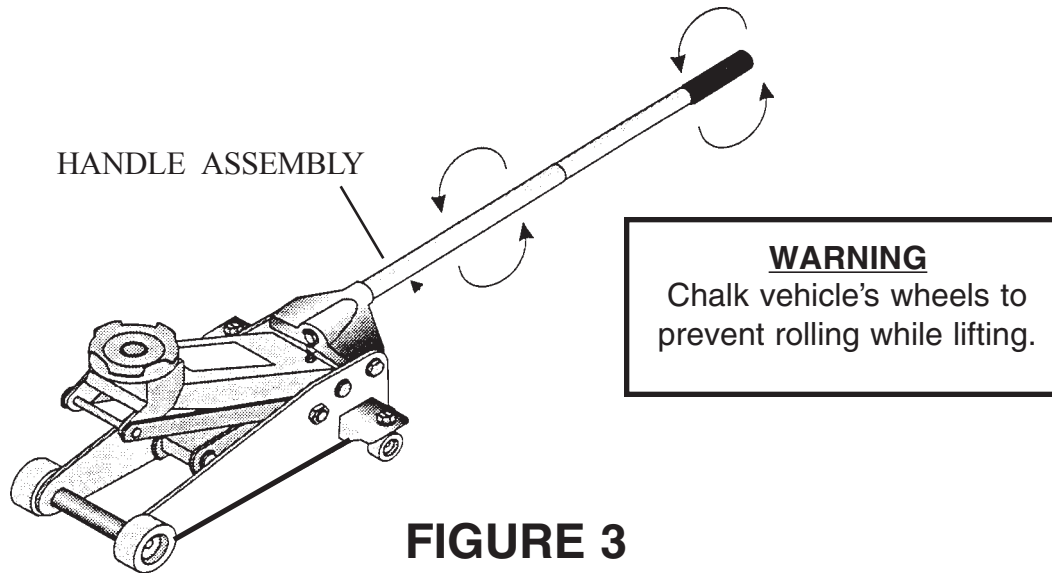

FIGURE 3
Step 1: Twist the Handle Assembly clockwise to close the pressure release valve as shown in Figure 3.